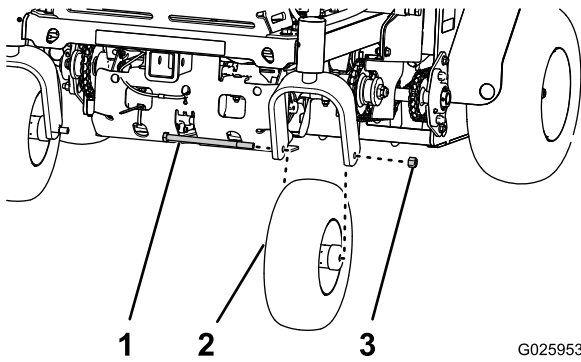

Figure 28
3. Remove the wheel nut and bolt, and remove the caster-wheel assembly from the fork (Figure 28).
1. Align the hole in the axle of the caster-wheel assembly between the holes in the fork of the caster (Figure 28).
2. Secure the to the fork with the wheel nut and bolt (Figure 28) that you removed in step 3 of Removing the Caster-Wheel Assembly (page 28).